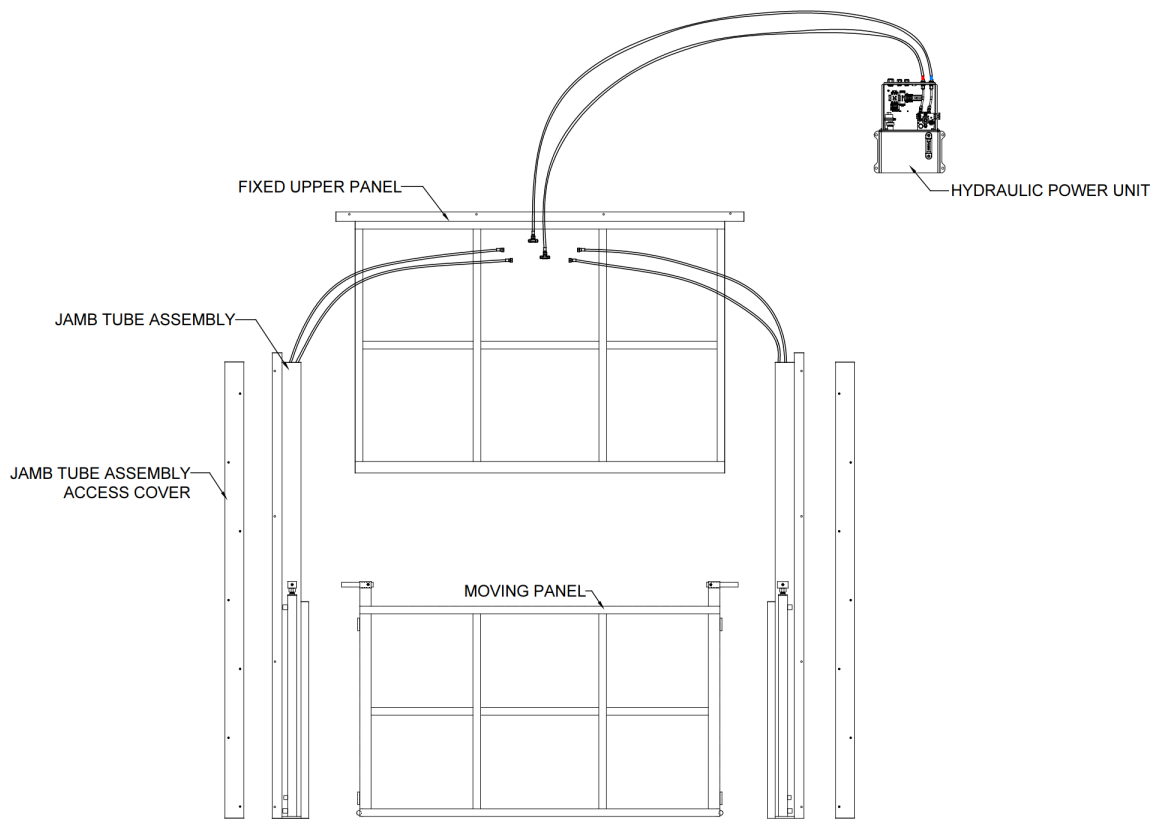

FIG. 1
- *If your Vertical-Lift System is delivered disassembled, as per fig. 1, follows steps 1-4.*
Identify and lay out components, as per fig. 1, with the “interior” side facing up.